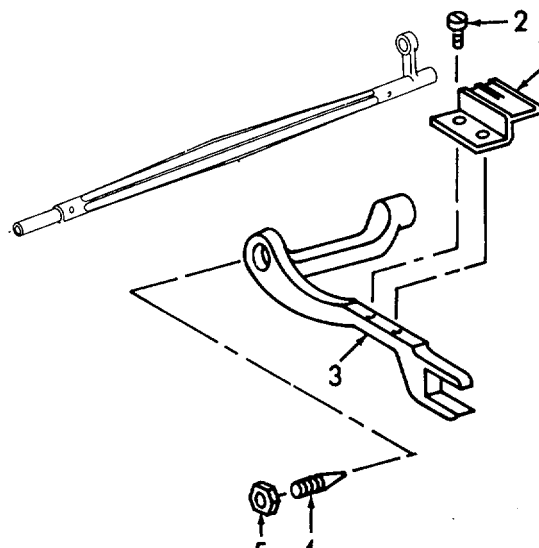

Figure 6-52. Feed Bar, Installation.
g. *Installation (Refer to Figures 6-52 through 6-56).*
(1) Refer to Figure 6-52. Install feed dog (1) and secure with two screws (2).
(2) Install feed bar (3) into position and then install feed bar centering screws (4).
(3) Tighten the feed bar centering screws (4) until the end play on the feed bar is gone and the feed bar can still move freely.
(4) Tighten the locknuts (5) and then recheck the end play and feed bar movement.